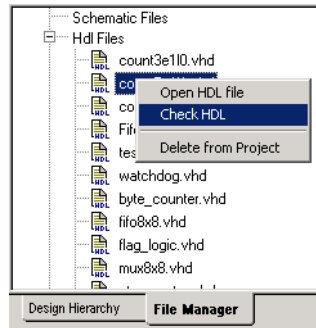

Figure 4-7. Running the Syntax Checker
1. **In the Libero File Manager, right-click an HDL file and select *Check HDL***, as shown in Figure 4-7.